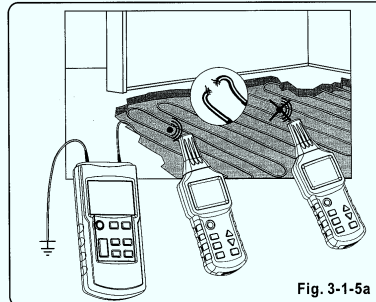

Fig. 3-1-5a
- All lines not being used must be connected to the auxiliary ground as shown in Fig. 3-1-5a.